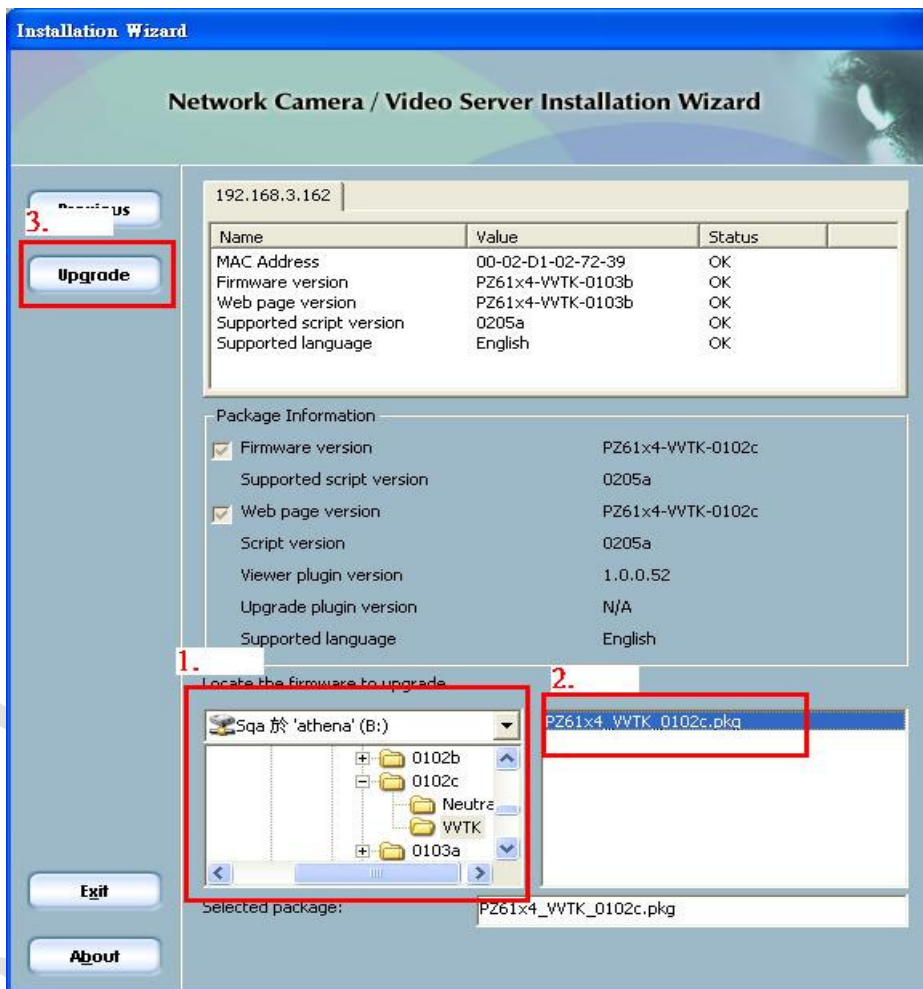

Fig. 4 Upgrade page
Step 1. Check the box in front of the IP address, the camera of the current selected IP address will be upgraded. (Fig.4)